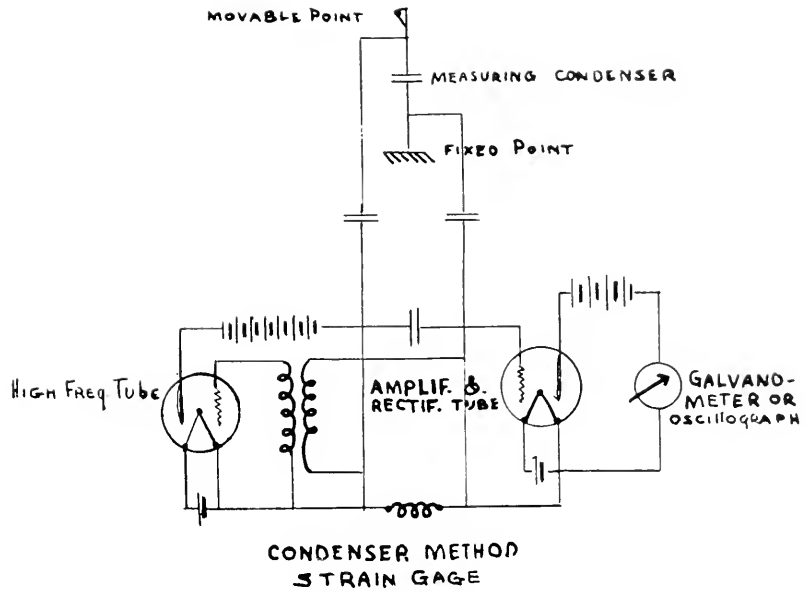

FIG. 6
**Capacity Type Strain Gage:** The diagram of Fig. 6 shows a capacity type strain gage. The instrument is based on the change in the distance between two condenser plates forming a part of the electrical circuit. One of the plates is rigidly connected to the fixed point of strain gage, the other to the movable. Any change in the air gap between the two measuring plates causes a change in the fre-